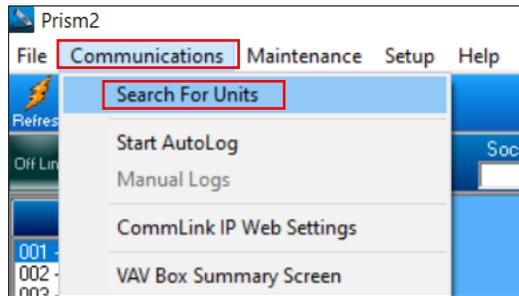

Figure 28: Starting The Search For Units
8. To verify if the unit is ready for connection, left-click “Communications”, then left-click “Search For Units” (see figure 28).